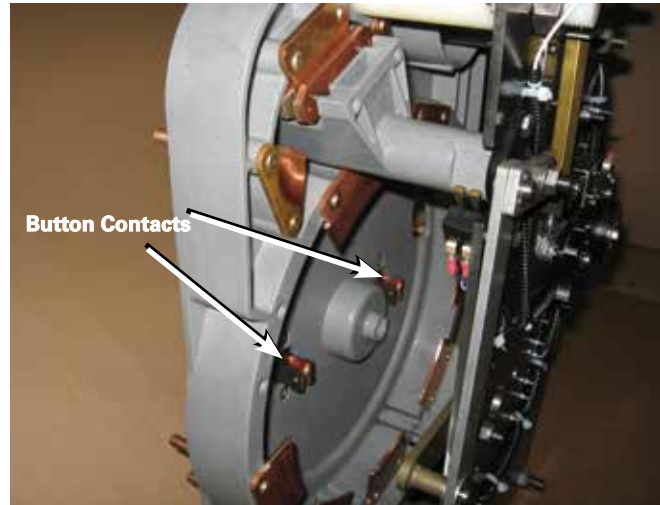

Figure 138. Removal of main contacts.
- Pull the main shaft completely out of the back of the molded panel. Pull the contact rings out of the button contacts and remove the movable contact panel assembly. Refer to Figure 138.